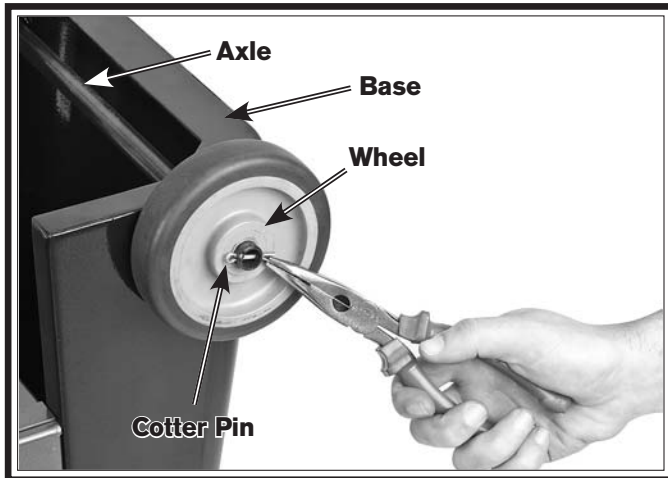

Figure 11. Wheel assembly.
6. Insert the axle through the holes in the base assembly, then slide the wheels over the axle and secure each with a cotter pin, as shown in **Figure 11**.